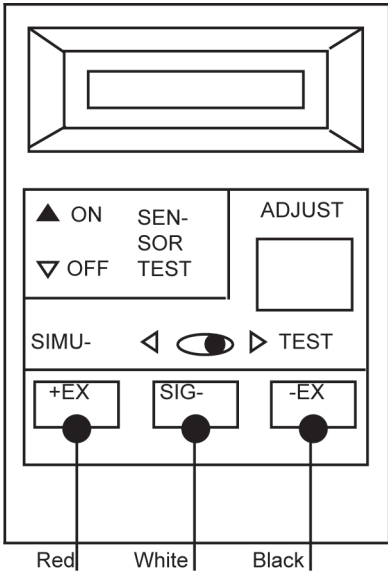

Figure 2-1. Kistler-Morse® Test Meter.
The Kistler-Morse® Test Meter (Figure 2-1) is designed specifically to test Kistler-Morse® sensors. If you do not have a test meter, disregard this section and proceed to TESTING WITH A DIGITAL MULTIMETER (DMM).
1. See Figure 2-1. Connect the Microcell™ red, white, and black wires to the corresponding test meter terminals. Place the Microcell™ on a stable surface.